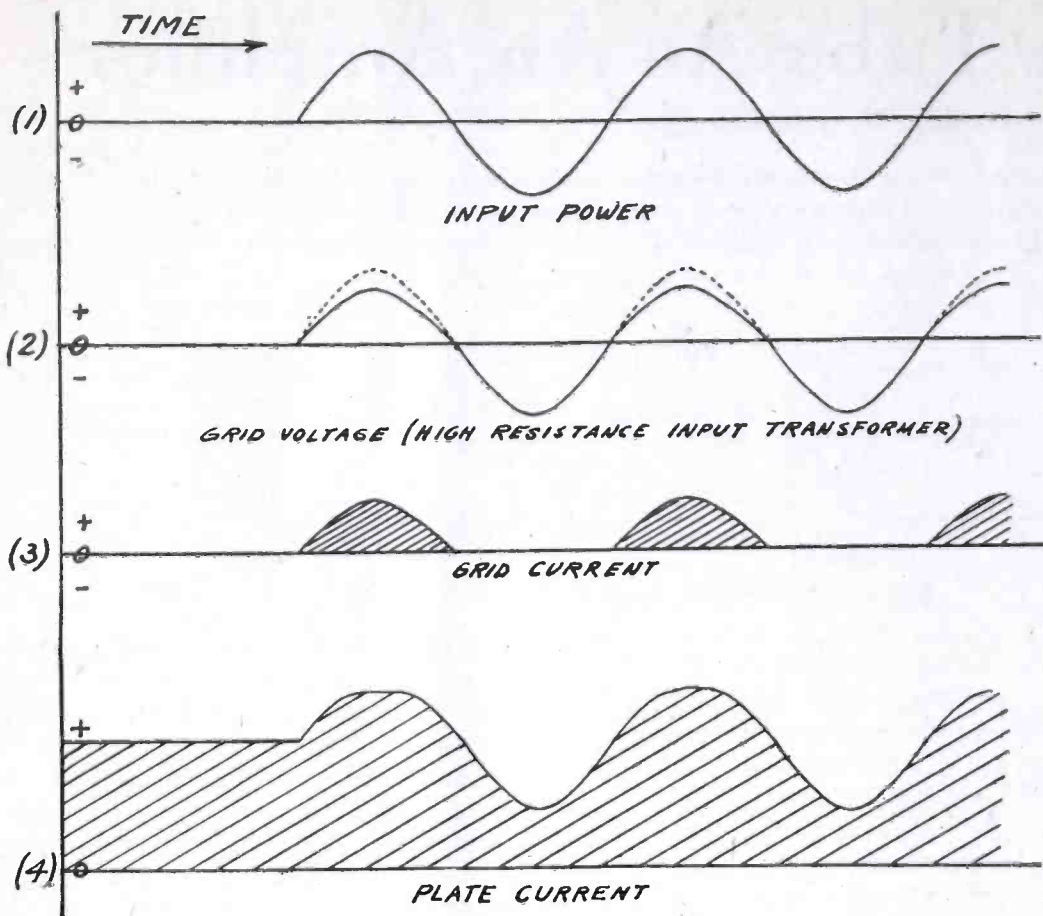

Fig. 4. Distortion Due to Unbalanced Effect of Grid Current
former circuits too large to be neglected. The grid voltage will not now be a sine wave due to the fact that the flow of grid current during one-half cycle will produce a voltage drop across the resistance of the secondary of the input transformer. As a result the grid voltage will not reach as high a positive value as would otherwise be the case. In Curve (2) Fig. 4 the dotted line shows the variation of grid voltage due to the unbalanced effect of the voltage resulting
from grid current. The alternating current component of Curve (4) Fig. 4 is not a pure sine wave and consequently the output is not a faithful reproduction of the input.